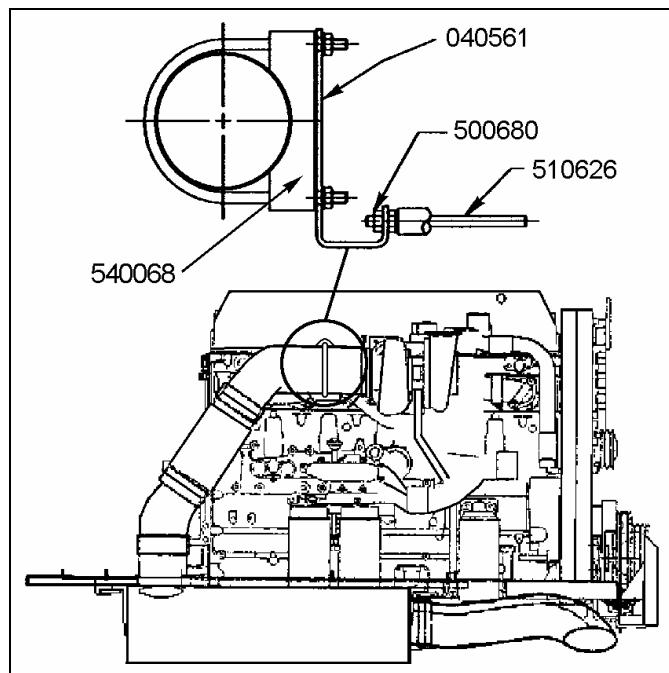

FIGURE 2: VIEW OF ENGINE – TURBO SIDE
6. Torque both engine stud bolts (Prévost #510626) to 43 - 54 lbf·ft (58 - 73 Nm). Install new reinforcement bracket (Prévost #040561) and tighten Stover nuts (Prévost #500680) as shown in figure 2.